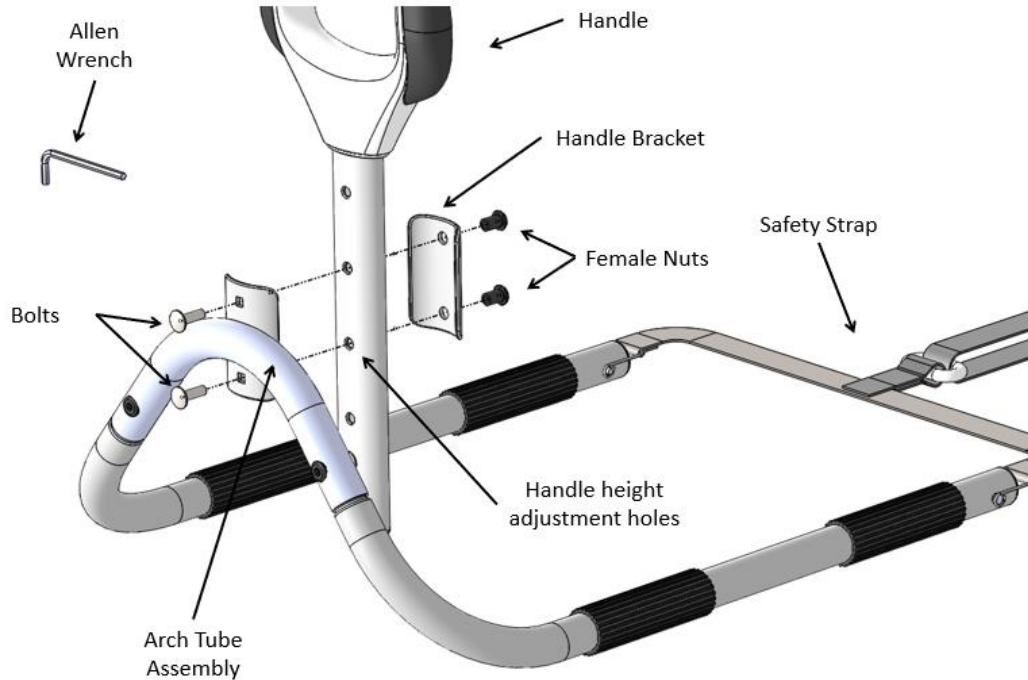

FIGURE 4
4. Determining the “Handle height adjustment holes” to use. Attach the Handle onto the Arch Tube with the Handle Bracket, Bolts, and Female Nuts using the included Allen Wrench as seen in Figure 4.